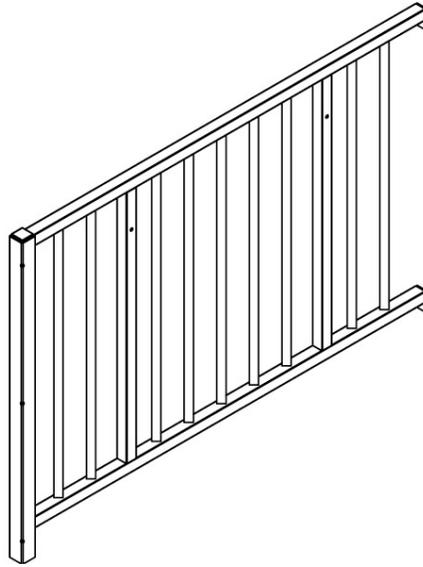

**FIG. 20**
- 4.15.2 Separate the ends of brace bands until they go around the 1-1/2" square tube and install two bands on each leg. Orient the band so that the legs with the holes extend under the ramp (FIG. 20).
- 4.15.5 Install brace assembly using four 5/16"-18 x 1-1/2" long carriage bolts, nuts and washers in the desired location (FIG. 20).